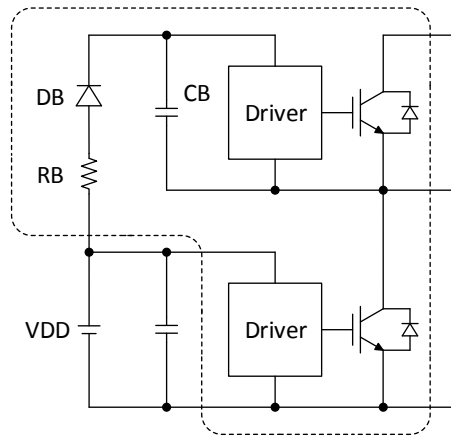

Figure 16. Boot Strap Circuit
VB1, VB2, VB3 The VBx pins are internally connected to the positive supply of the high-side drivers. The supply needs to be floating and electrically isolated. The boot-strap circuit shown in Figure 16 forms this power supply individually for every phase. Due to integrated boot resistor and diode (RB & DB) only an external boot capacitor (CB) is required.